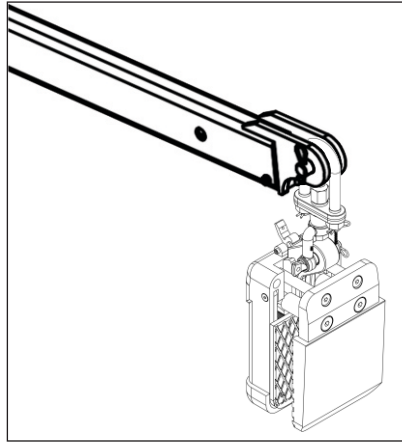

Figure 1.1
Step 1: Hook the Little Giant Lifter to a forklift boom (Figure 1.1).